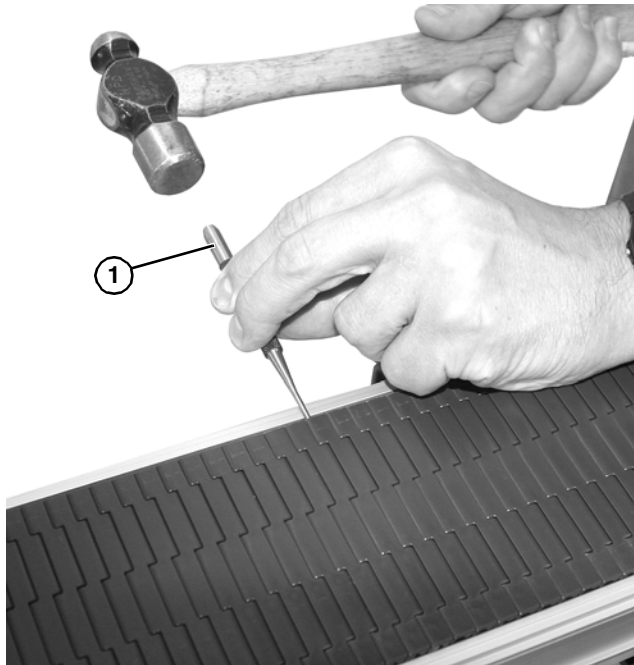

Figure 39
2. Insert punch (Figure 39, item 1) into non-retaining side of belt, pushing rod out.